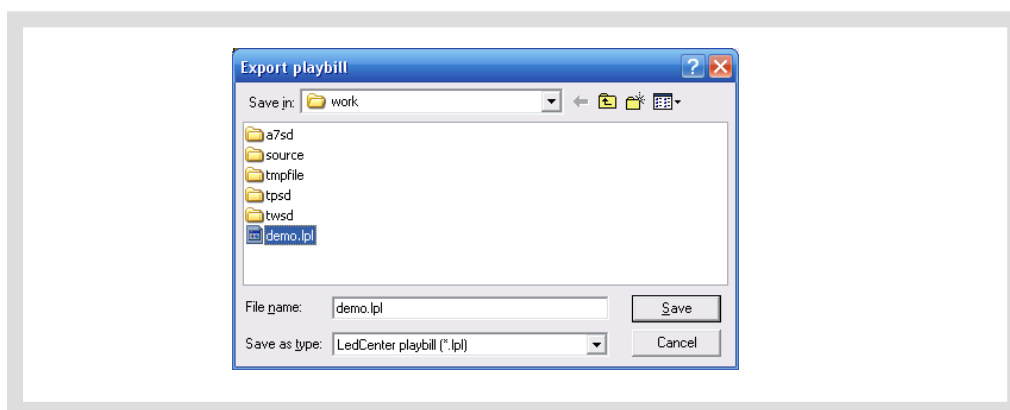

Figure52 Dialog box of export playbill
- 2) Select export position in the dialog box “Export to playbill” (as shown in Figure52) and enter the export file name. Click “Save”. The playbill file of current panel will be stored to the file.